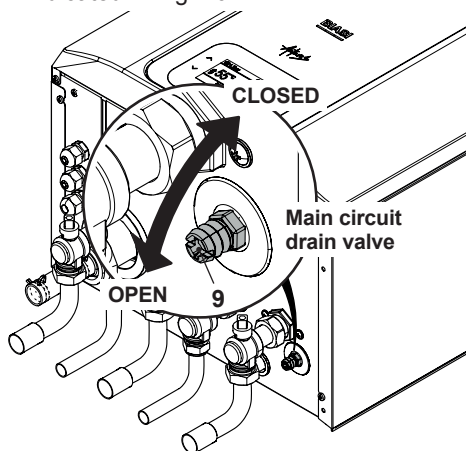

Fig. 10.11
- Loosen the central heating drain cock 9 indicated in Fig. 10.11.